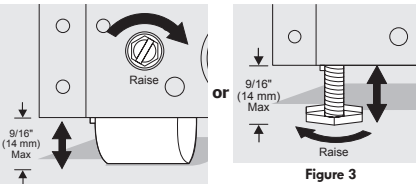

Figure 2
- Use a flat-blade screwdriver or 3/8 inch socket wrench to raise or lower the front rollers (Figure 2).